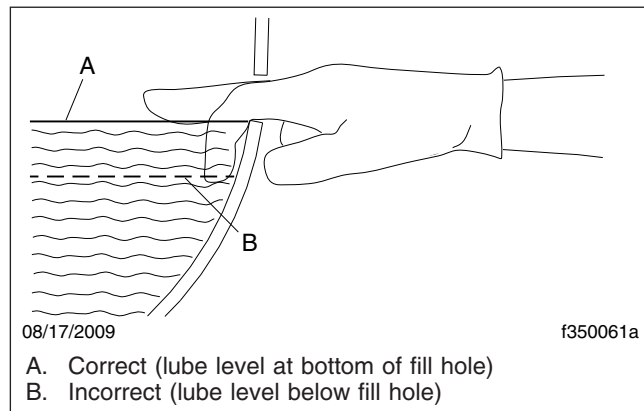

Fig. 2, Axle Lubricant Level Inspection
- 5.1 Fill the axle through the oil fill hole. Lubricant should be level with the bottom of the oil fill hole. To check fluid level, see Fig. 2.
- 6.1 With the vehicle on a level surface, fill the axle through the oil fill hole. Lubricant should be level with the bottom of the oil fill hole. To check fluid level, see **Fig. 2**.